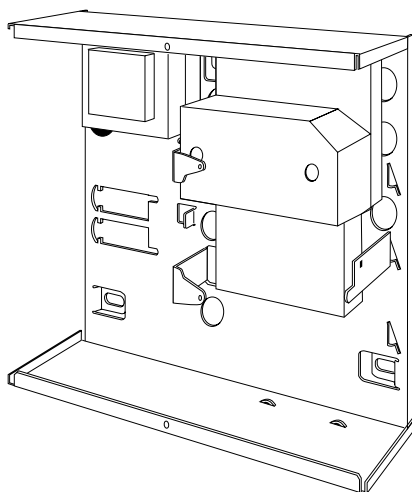

Figure 19. Fitting a Plug ByCommunicator in a Junior Combi Box
- b) Fit the communicator between the PCB support pillars, making sure that the main PCB can fit back into position (see Figure 19).